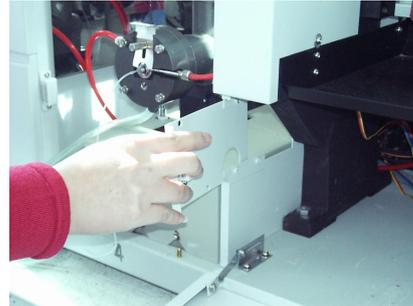

Figure 2-4
5. Take down the little spile on the right of the sample room (Figure 2-4)